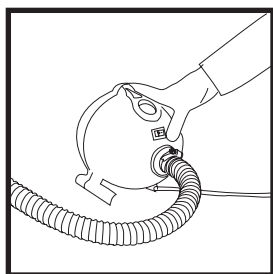

Fig. 3
7. Use the pump to inflate the product until you feel it is completely taut (you will hear the sound of the pump changing) (Fig. 3).